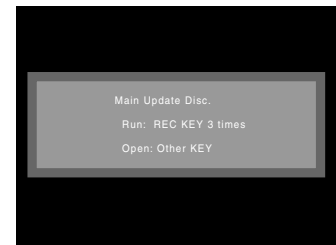

Fig. 3-4-5
- 1) Refer to “3-4-2 Method of starting up firmware update program” and start the firmware update program: Once the firmware update program has started, the screen in Fig. 3-4-5 will appear.